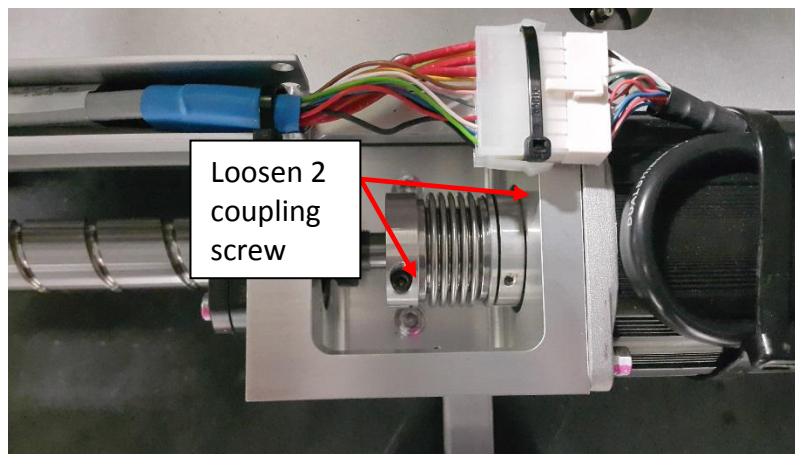

Figure 2 Coupling
2. Loosen the 2 coupling screws at the coupling(2660-0032) as shown in Figure 2.